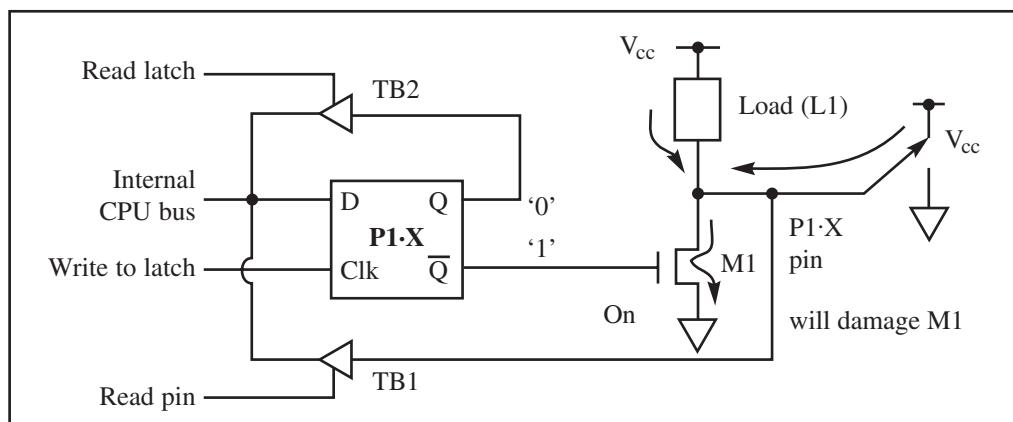
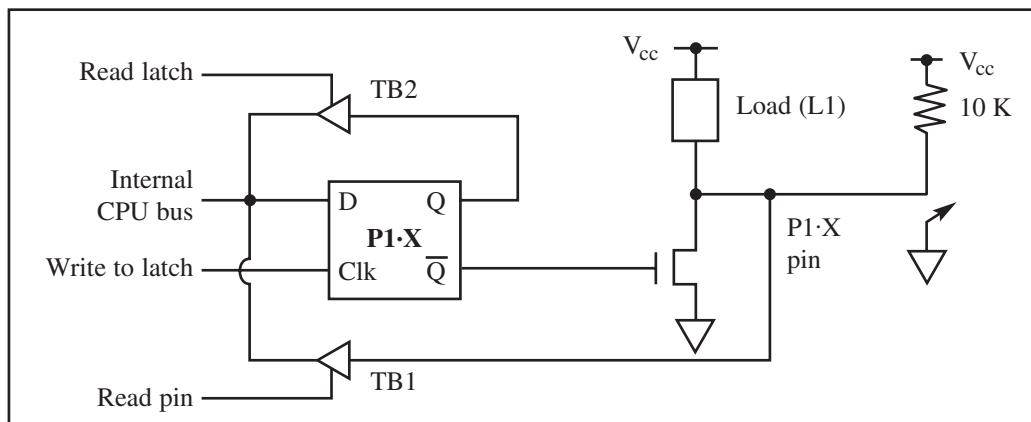

Figure 13. Never Connect Direct V_{cc} to the 8051 Port Pin
Figure 14. Input Switch with Pull-Up Resistor
The above discussion showed why we must write a “high” to a port’s bits in order to make it an input port. What happens if we write a “0” to a port that was configured as an input port? From Figure 13, we see that if we write a 0 (low) to port bits, then $Q = 0$ and $\bar{Q} = 1$. As a result of $\bar{Q} = 1$, the M1 transistor is “on.” If M1 is “on,” it provides the path to ground for both L1 and the input pin. Therefore, any attempt to read the input pin will always get the “low” ground signal regardless of the status of the input pin. This can also damage the port, as explained next.
We must be very careful when connecting a switch to an input port of the 8051. This is due to the fact that the wrong kind of connection can damage the port. Look at Figure 13. If a switch with V_{cc} and ground is connected directly to the pin and the M1 transistor is “on,” it will sink current from both internal load L1 and external V_{cc} . This can be too much current for M1, which will blow the transistor and, as a result, can damage the port bit. There are several ways to avoid this problem. They are shown in Figures 14–16.
1. One way is to have a 10K-ohm resistor on the V_{cc} path to limit current flow through the $M1$ transistor. See Figure 14.